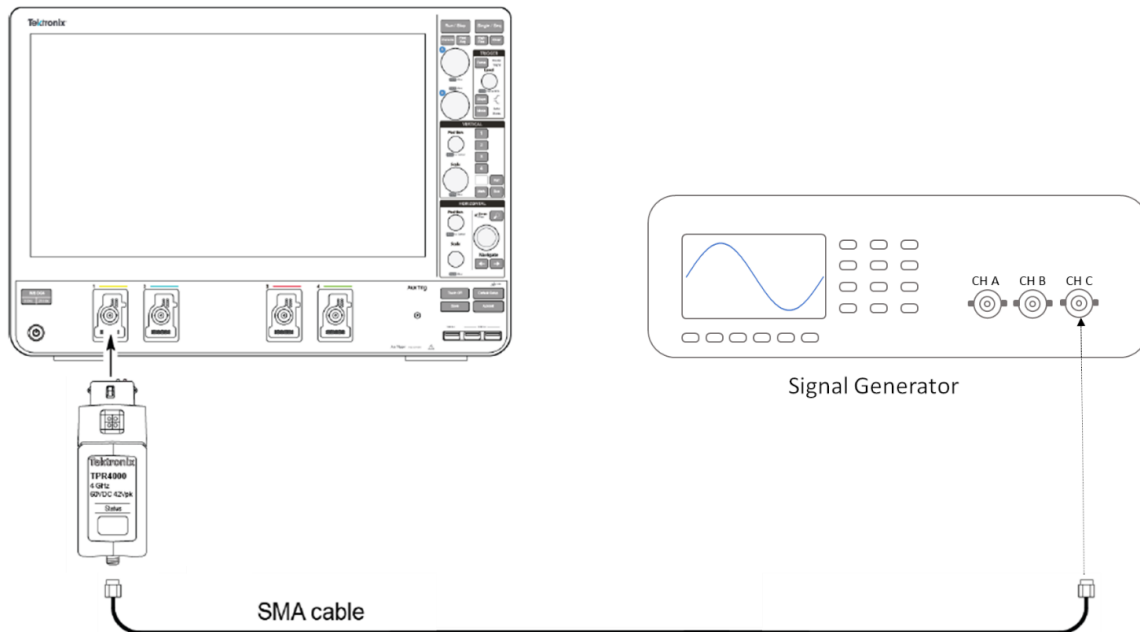

Figure 1: Functional check connection diagram
1. Connect the probe to the oscilloscope and a function generator as detailed in the connection diagram. (See Figure 1.)